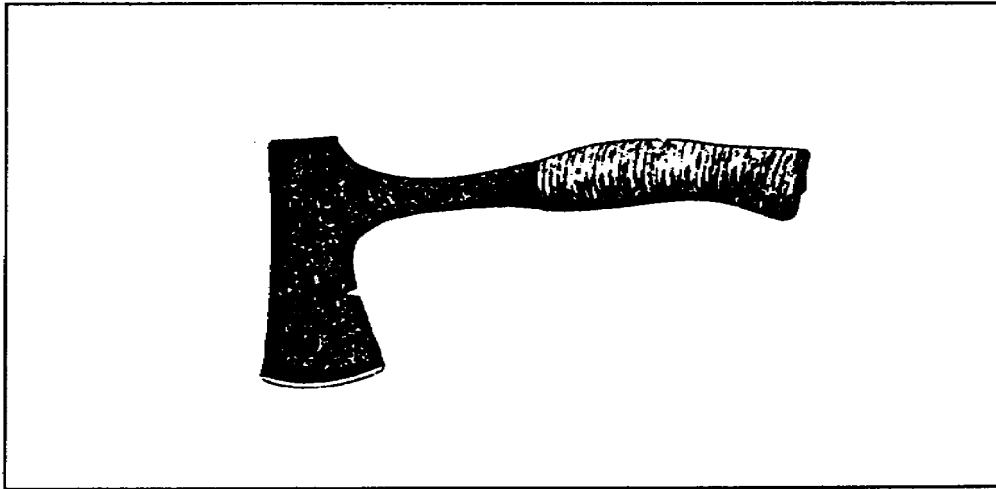

Figure 2-29. Hand axe
a. Hand Axe. The hand axe has a curved cutting edge and a long, flat-faced peen. It is sharpened with a bevel on each side of the blade. The broad hatchet and half hatchet are sometimes referred to as *hand axes* (Figure 2-29).